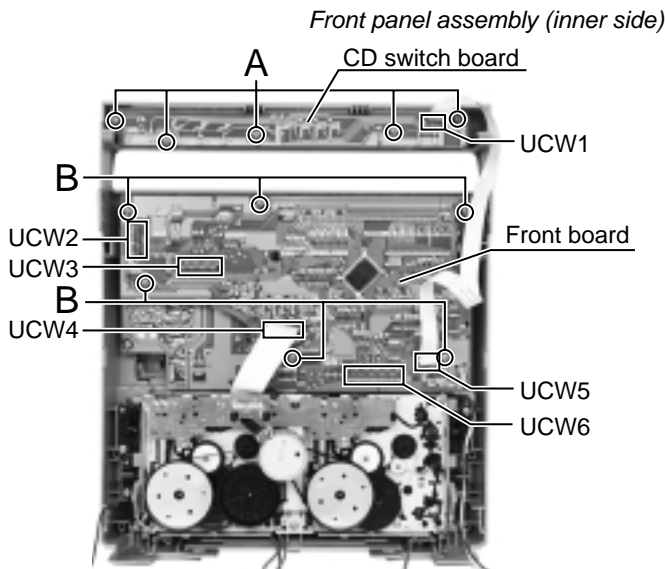

Fig.1
■Removing the CD switch board (See Fig.1)
■Removing the front board (See Fig.1)
■ Removing the CD tray (See Fig.1 to 3)